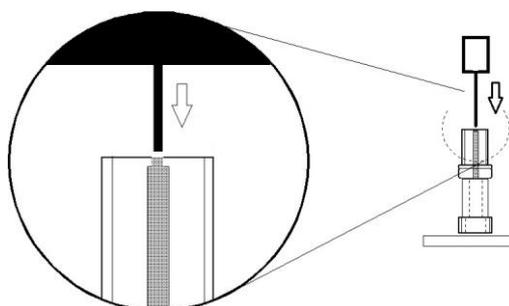

Fig. 10. Pushing the cotton wool frit out with the sb REF tool.
3. Place the open body with frit facing upward on a glass plate [Fig. 10].
4. Use the narrow end of the sb REF tool or a rod of ± 1 mm (0.039 inch) to push out the frit from the outside inward. Be careful not to damage the frit constriction in the tip of the body [Fig. 10]. If the frit is dried out and giving too much resistance, soak it overnight in a beaker with demineralised water before trying again.